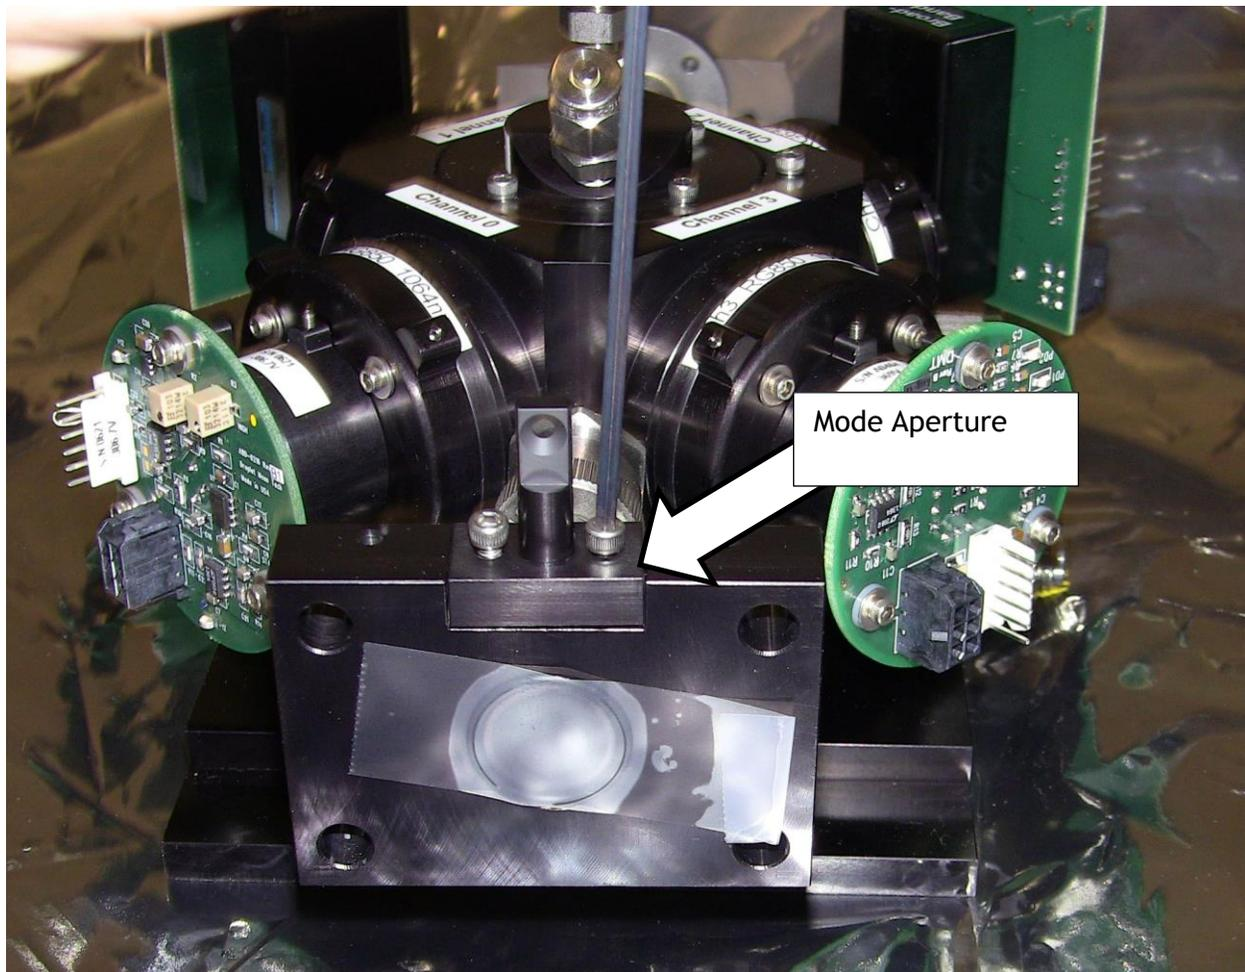

Figure 5: Installing Mode Aperture in Upside-Down Position
- 3.8. Reinsert the mode aperture in an upside-down orientation, while leaving the small O-ring underneath it, and screw it in place. (This creates the necessary seal for the SP2 flow system, while at the same time ensuring that the mode aperture is not blocking the laser.) See Figure 5.